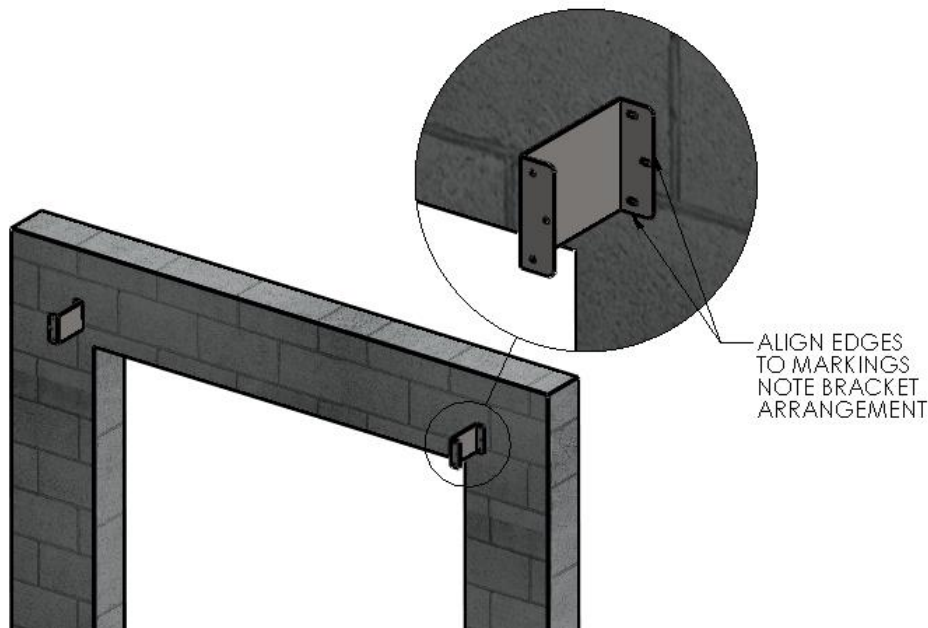

Figure 5 LOCATE/INSTALL HEADER OFFSET MOUNTING BRACKET
1. Using the wall end of one of the Header Projection Mount Brackets, trace the insides of its oval mounting slots onto the wall mount surface (a Sharpe permanent marker works great for this). Be sure that its flange is facing outward, that its bottom edge is on the height line, and that the outer edge is on your vertical overall width line. (Figure 5 LOCATE/INSTALL HEADER OFFSET MOUNTING BRACKET)
2. Predrill through the centers of the traced locations for the mounting hardware, three (3) pilot holes on each side. Using adequate mounting screws or bolts (depending on your building/surface material) attach the header offset brackets to each side of the opening. (Figure 5 LOCATE/INSTALL HEADER OFFSET MOUNTING BRACKET)